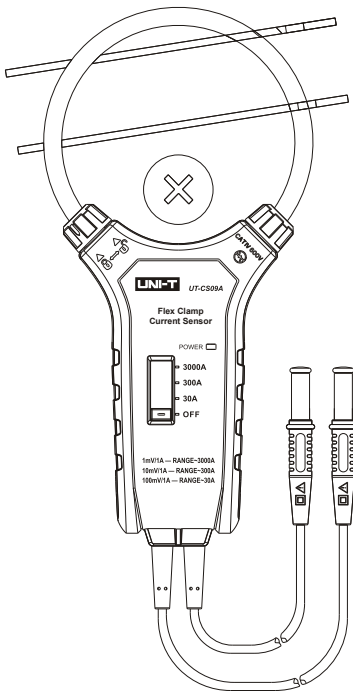

Figure 5a
6. Improper operation example (see figure 5a, 5b).